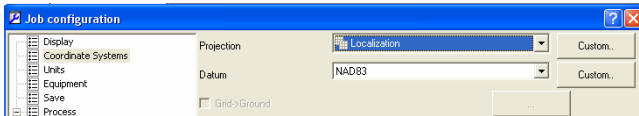

Figure 6-38. Selecting Localization Projection
2. Import a local coordinate file into the job file. Before importing this file, be sure that the Ground coordinate system is specified for the job. To do this, click **Job ► Job Configuration** (Figure 6-38), select *Coordinate Systems* and select *Localization* in the *Projection* field: